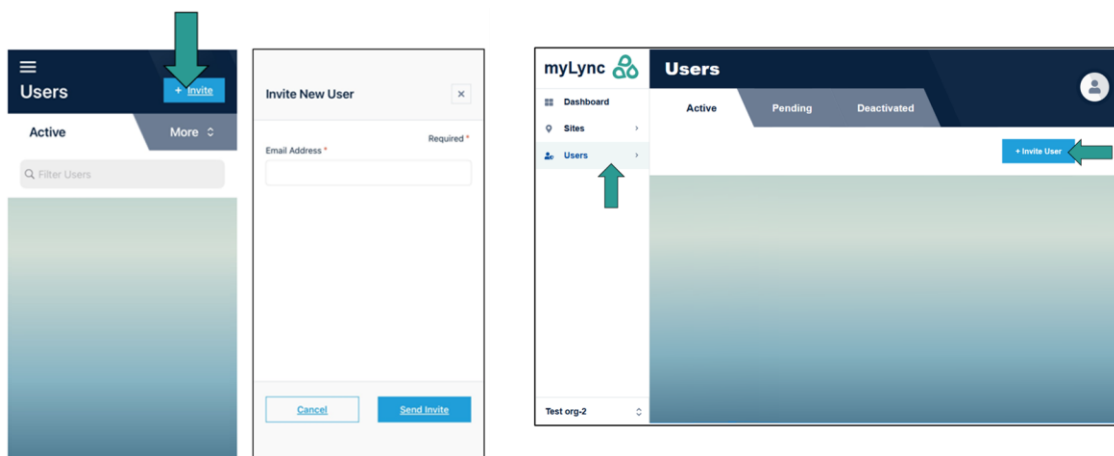

Figure 5-23 - Invite New User
2. Click on "+ Invite" to invite a new user to the organization (Figure 5-23).